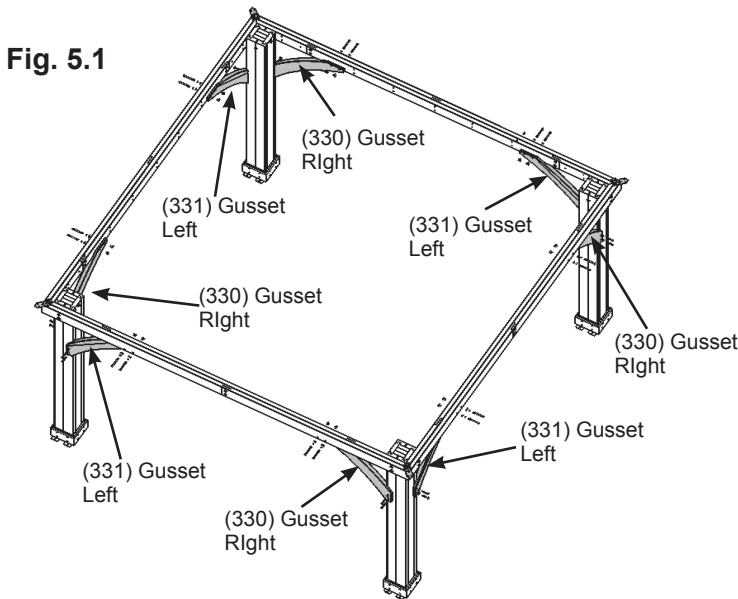

Fig. 5.1
A: Make sure the assembly is still square and level then facing one Beam Assembly place one (330) Gusset Right on the right hand side so the top fits tight to the Beam Assembly and the bottom fits tight to the Post Assembly. Attach gusset to Beam Assembly with two 5/16 x 3-3/4" Hex Bolts (with 5/16" lock washer, 5/16" flat washer and 5/16" t-nut) and to Post Assembly with two 1/4 x 2-1/2" Wafer Lags (with 5/16" flat washer). (fig. 5.1, 5.2 and 5.3)
B: Repeat Step A on the left hand side with one (331) Gusset Left. (fig. 5.1, 5.2 and 5.3)
C: Repeat Steps A and B for each Beam Assembly/Post Assembly. (fig. 5.1, 5.2 and 5.3)